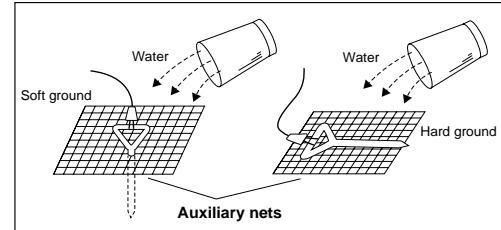

Fig.2
- (2) If the pointer does not stay within the CH blue belt, auxiliary spikes should be more tightly stuck into the ground. For auxiliary earthing, there are other methods shown in Fig.2 according to the ground conditions. (To use the auxiliary net: sold separately)